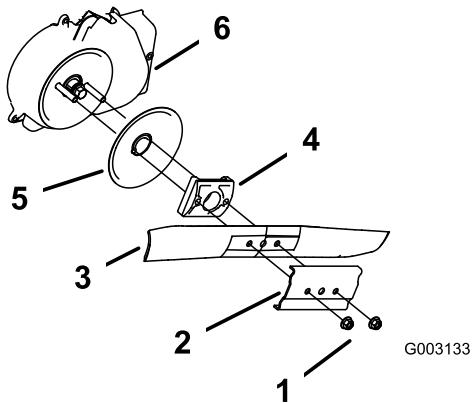

Figure 52
3. Remove the 2 blade nuts and the stiffener (Figure 52).
4. Remove the blade (Figure 52).
5. Remove the blade driver and disk (Figure 52).
6. Remove the blade brake clutch shield (Figure 52).
10. Install the blade and the stiffener that you previously removed (Figure 52).